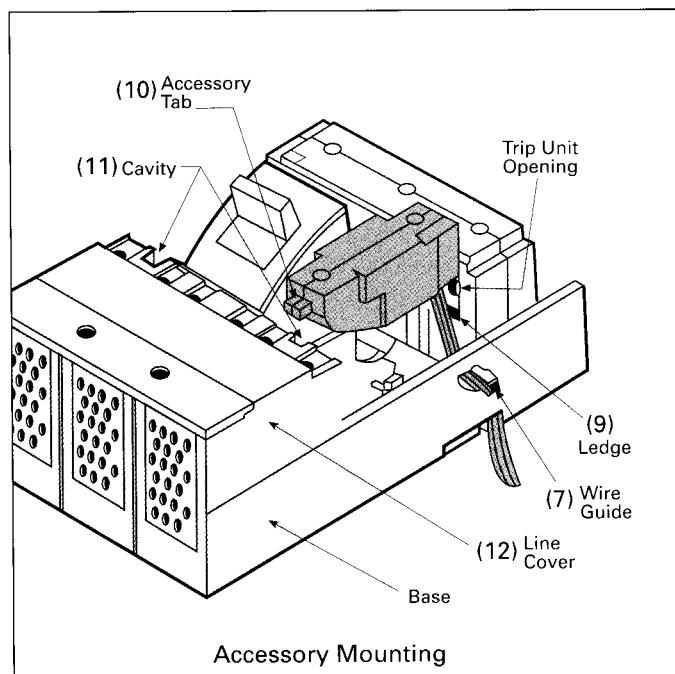
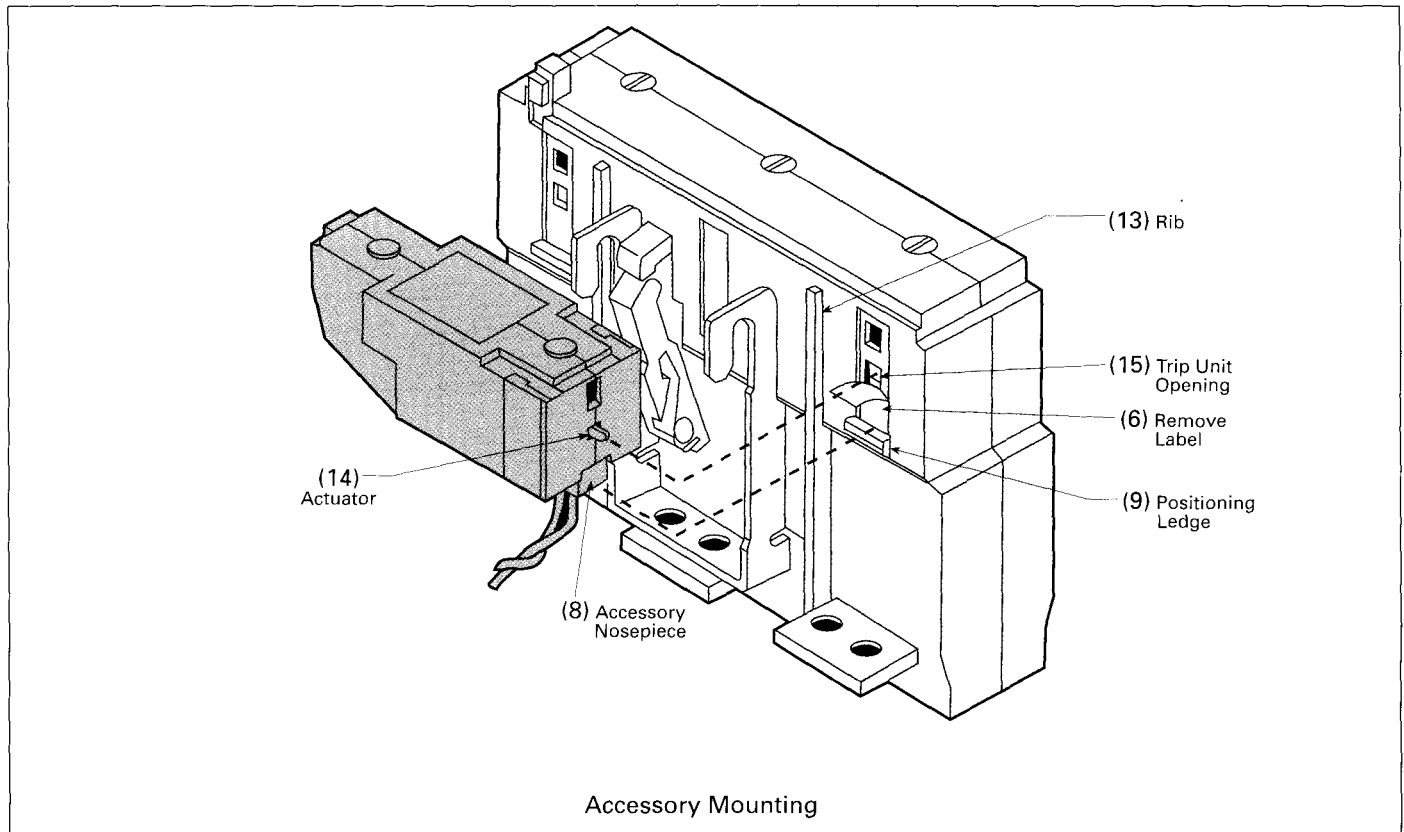

Figure 2
Figure 3
- D. Remove label (6) which covers openings in trip unit (Figure 3).
- A. Feed leads through opening at bottom of accessory case for right hand or left hand mounting in breaker. Leads should always exit accessory toward outer edge of breaker. Feed accessory leads down and through .670 x .300" elongated opening (7) (Figure 2) to bring leads out bottom of circuit breaker.
- B. Pull gently and evenly on accessory wire leads (2 to 9 wires) while lowering accessory onto base. Make sure all the slack is removed from leads inside breaker. Accessory is placed in circuit breaker on nosepiece (8) (Figure 3) on bottom side of accessory. Slide accessory down to rest on positioning ledge (9) (Figures 2 and 3) of trip unit.
When accessory is installed correctly, front tab of accessory (10) (Figure 2) will rest in cavity (11) of line cover (12). The inside edge of any accessory should be against the trip unit rib (13) (Figure 3) after installation.
NOTE: Do not attempt to "slide" Bell Alarm into position. Actuator (14) (Figure 3) must be inserted below top edge of center trip unit opening (15) (Figures 2 and 3) as front of accessory is lowered into cavity of line cover.